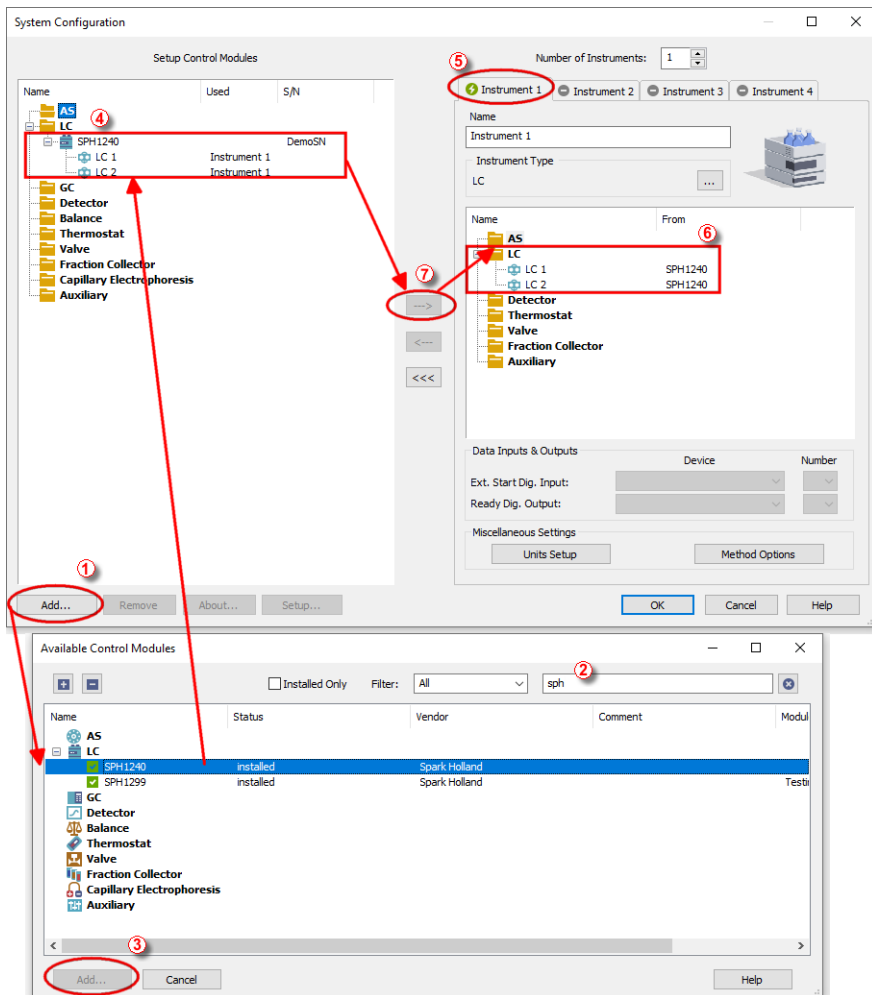

Fig 2: System Configuration
- Press the **Add** button ① (see **Fig 2** on pg 5.) to invoke the **Available Control Modules** dialog.
- You can specify the searching filter ② to simplify the finding of the driver.
- Select the **SPH1240** pump and press the *Add* ③ button.